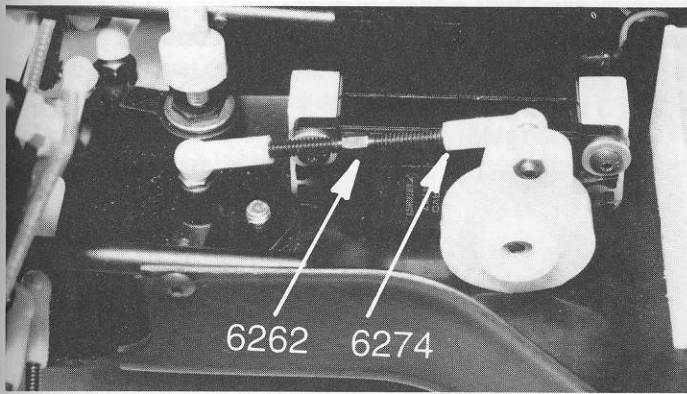

Fig. 161
□ **Fig. 161** In bag #6-2 you will find the #6262 1.65" turnbuckle. In bag #6-14 you will find the remaining two #6274 plastic ball end caps. Thread on the two plastic ball end caps. Because each servo horn or servo saver can be a different size, there is no pre-established length for this turnbuckle. To properly set up this turnbuckle, you will want the servo saver or horn to be pointing straight up and the arm of the #6254 bell crank steering pointing across the chassis. When set up this way both wheels should be pointing straight forward.